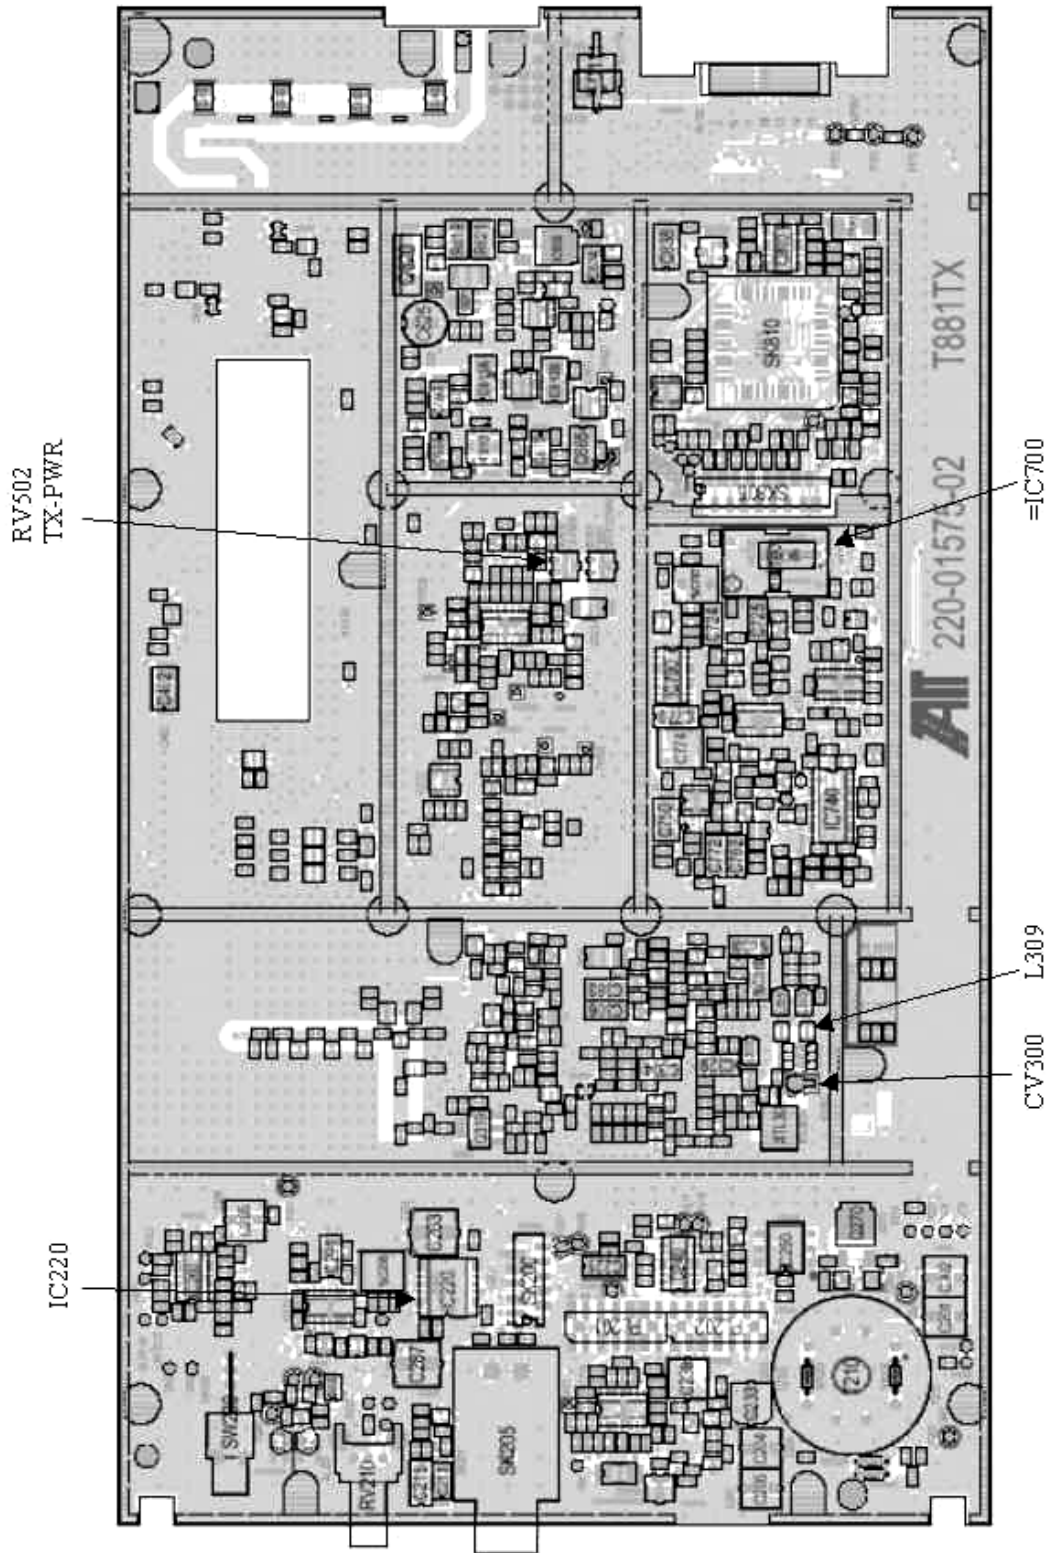

Figure 1 - T881-0200 Exciter Tuning Controls locationignal before it reaches the T881 exciter.
Note 1: Refer to Figure 1 (T881).
- T881 = 5W +0/-300mW (RV502, Figure 1) or the required output power in the range 1W-5W